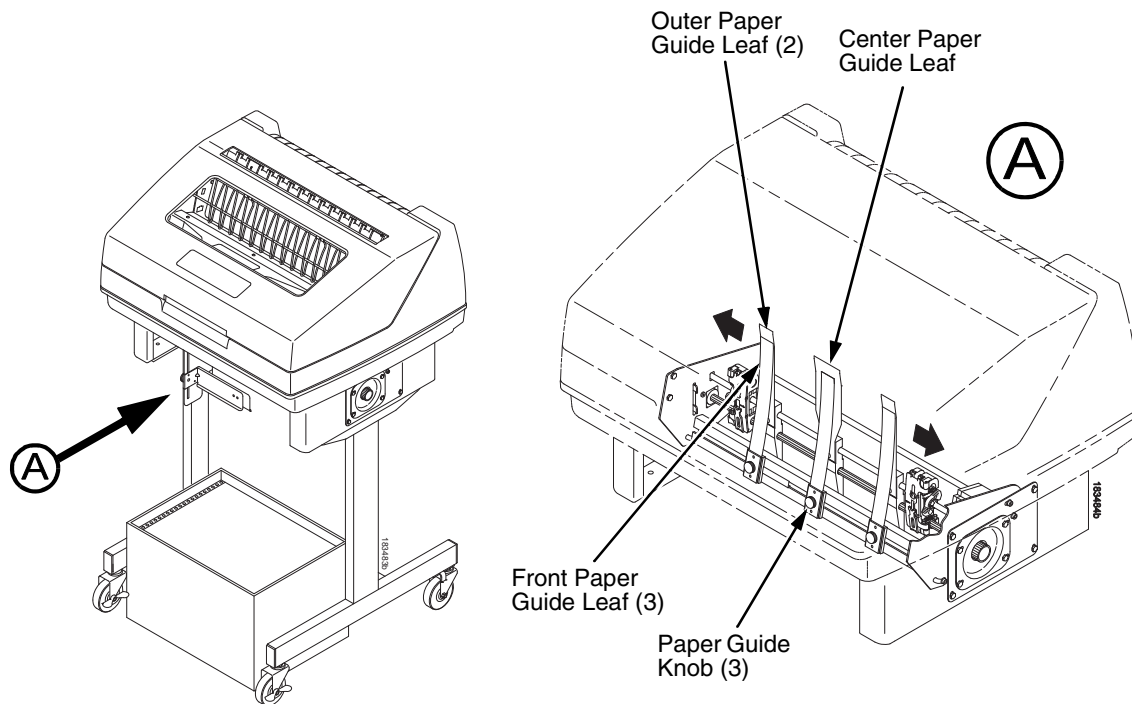

Figure 27. Adjusting The Paper Guides
1. Remove the left paper guide knob and the left, front paper guide leaf. (See Figure 27.)
7. Install the paper guide knobs and front paper guide leaves. (See Figure 27.)